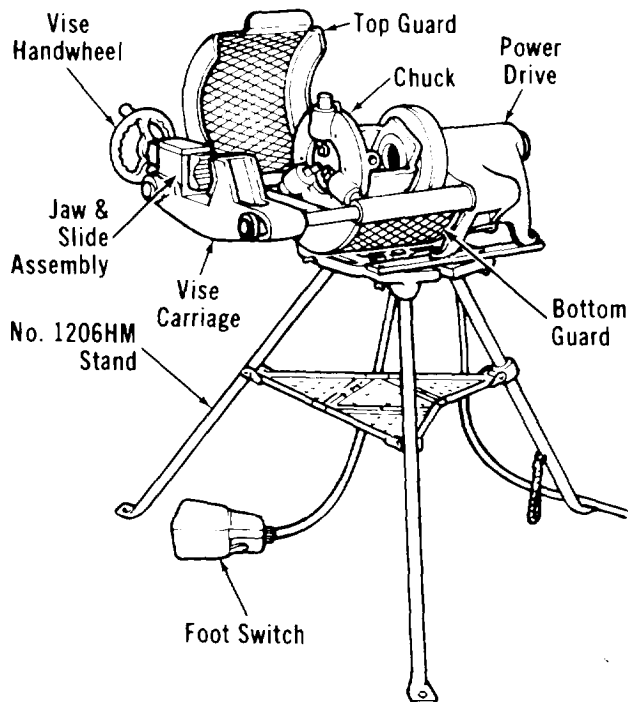

Figure 1. Portable Hose Assembly Machine and Stand.
The Portable Hose Assembly Machine (Fig. 1) is designed for low production assembly of hose and reusable fittings in sizes from $\frac{3}{16}$ " through $2\frac{1}{2}$ " in the single wire braid style, and from $\frac{3}{16}$ " through 2" in the double wire braid and 4 spiral wire styles. This machine will accommodate male pipe, swivel, flange and elbow type fittings.
6. Step on Foot Switch (Fig. 1).
7. Step on Foot Switch (Fig. 1).